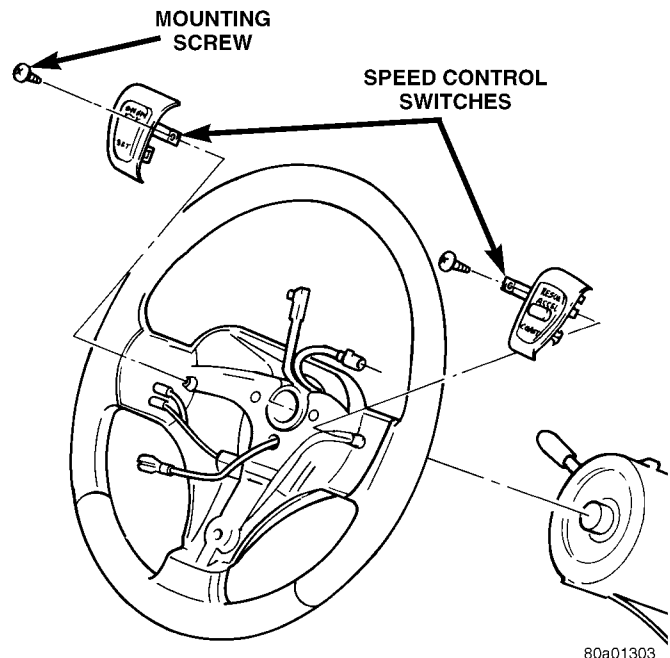

Fig. 5 Speed Control Switches
- (1) Disconnect and isolate negative battery cable.
- (2) Remove airbag module. Refer to Group 8M, Passive Restraint Systems for procedures.
- (3) Remove electrical connector at switch.
- (4) Remove switch-to-steering wheel mounting screw (Fig. 5).
- (5) Remove switch.